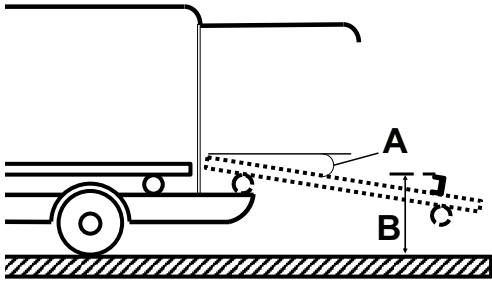

Figure 9 – Catch plate and loading tray specifications
- Angle (A) of the loading tray does not exceed 16° (Figure 9)
- Height (B) from the top of the catch plate to the ground is between 28.0" and 29.4" (Figure 9)